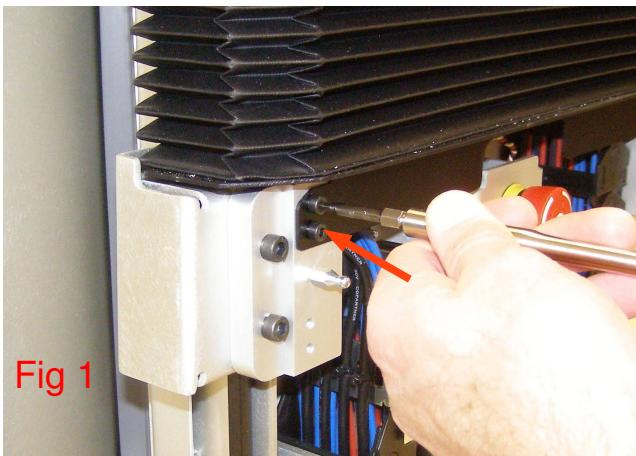

Fig 1
1. Using the 3mm bit with the T-handle driver, remove the 4 bottom screws. 2039-08 (Fig 1,2)